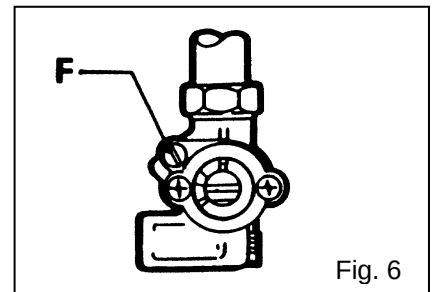

Fig. 6
- If you are using methane gas (G20/25), turn screw “F” to minimum (Fig. 6) to obtain a small but sufficiently stable and consistent flame. If instead you are using LPG (G30/G31), fully tighten screw “F” (the diameter of the associated bypass valve is stated in table 2).